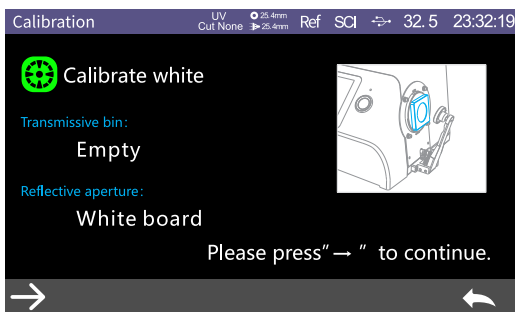

Figure 6 Reflective White Calibration
- It will automatically enter White Calibration after Black Calibration is finished as shown in Figure 6. Place well white plate (same steps as how to place black cavity), then press test key to start white calibration, or click  to quit the white calibration.